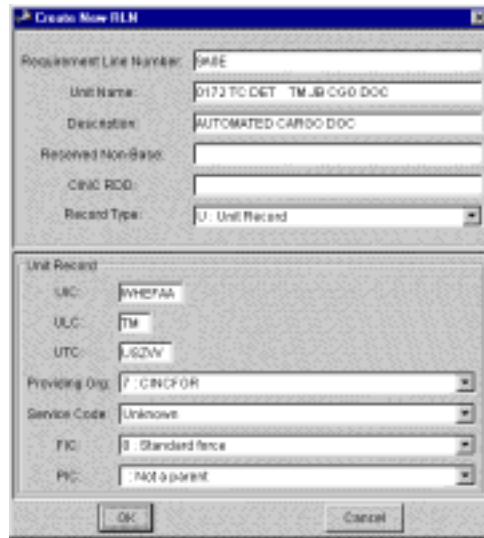

Figure 5.72 Create New RLN Window
- Click the Add RLN command. The Create New RLN window opens (Figure 5.72).